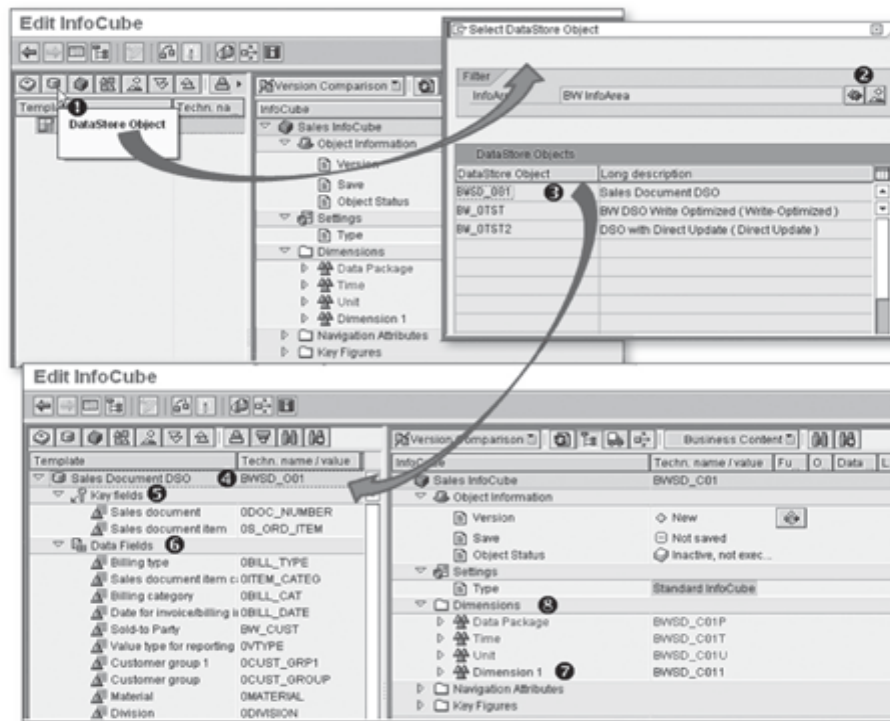

Figure 5.11 Using a DSO as a Template
In the example shown in Figure 5.11, we explain the process of adding InfoObjects by using a DSO as a template. Select the DSO icon from the left side of the screen (refer to ❶ of Figure 5.11), and then select the DSO either by using the Search option or by directly double-clicking from the list shown after clicking on the InfoArea icon (❷). Select the BWSD_O01 DSO from the list (❸).
Double-click on BWSD_001. As shown in ❹ of Figure 5.11, SAP NetWeaver BW shows all of the InfoObjects reading the definition of BWSD_001. It also classifies InfoObjects as key fields (❺) and data fields (❻).
The selection of a template doesn't add InfoObjects to dimensions. As shown in ❷ and ❸ of Figure 5.11, there are still four dimensions in the InfoCube, and no characteristics are yet assigned to them.